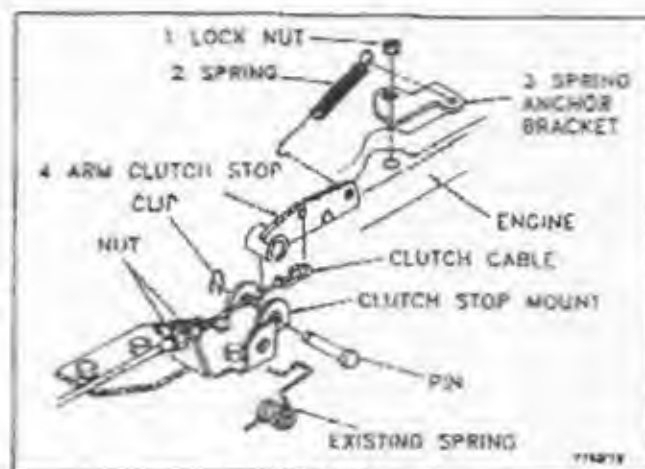

Figure 1.
2. Remove Clip Pin, Clevis Pin and existing Spring, save Clip and Clevis Pin. Discard existing Spring. See figure 1.
3. Assemble Clutch Stop Arm to Clutch Stop Mount with Clevis Pin and Clip Pin. See figure 1.
4. Assemble Spring Anchor Bracket to Engine. (remove nut,lock washer on engine and assemble the bracket to engine with Lock Nut.) See figure 1.
5. Assemble Clutch Cable to Clutch Stop Arm. See Figure 1.
6. Assemble Spring to, Clutch Stop Arm and Spring Anchor Bracket. See figure 1.